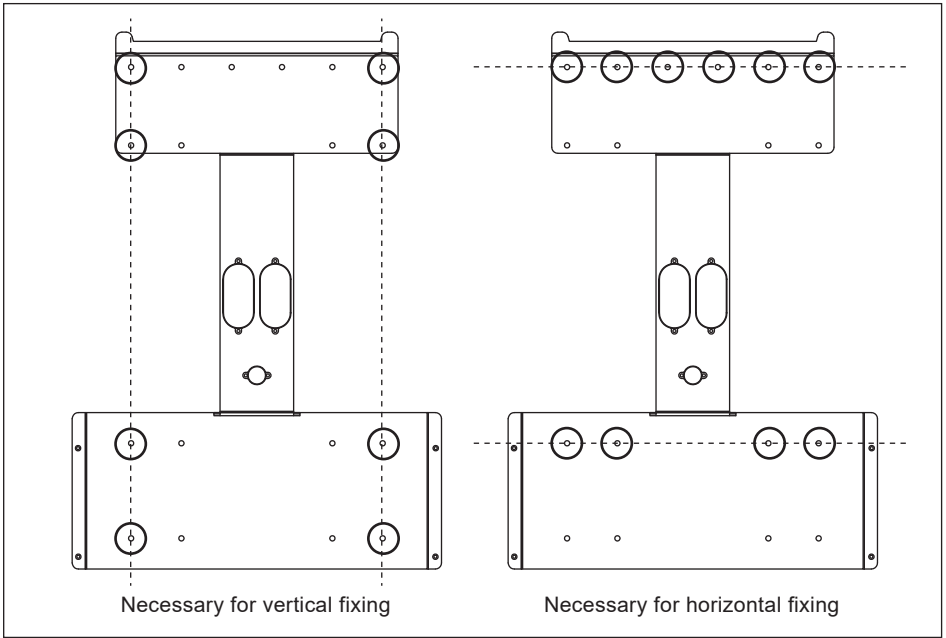

Figure 3-3 : Required position for at least 8 screws
3. There are two ways for fixing the wall mounting bracket as shown in **Figure 3-3**.